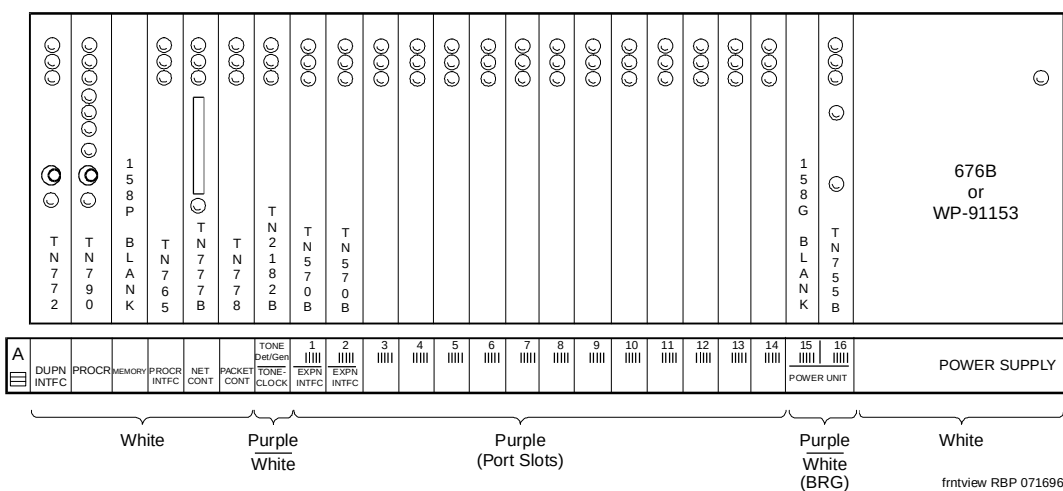

Figure 5-9. Circuit Pack Locations in Duplicated Control Carrier
3. At each control cabinet, install the TN790 Processor circuit pack into the slot labeled "PROCR" (see Figure 5-9).